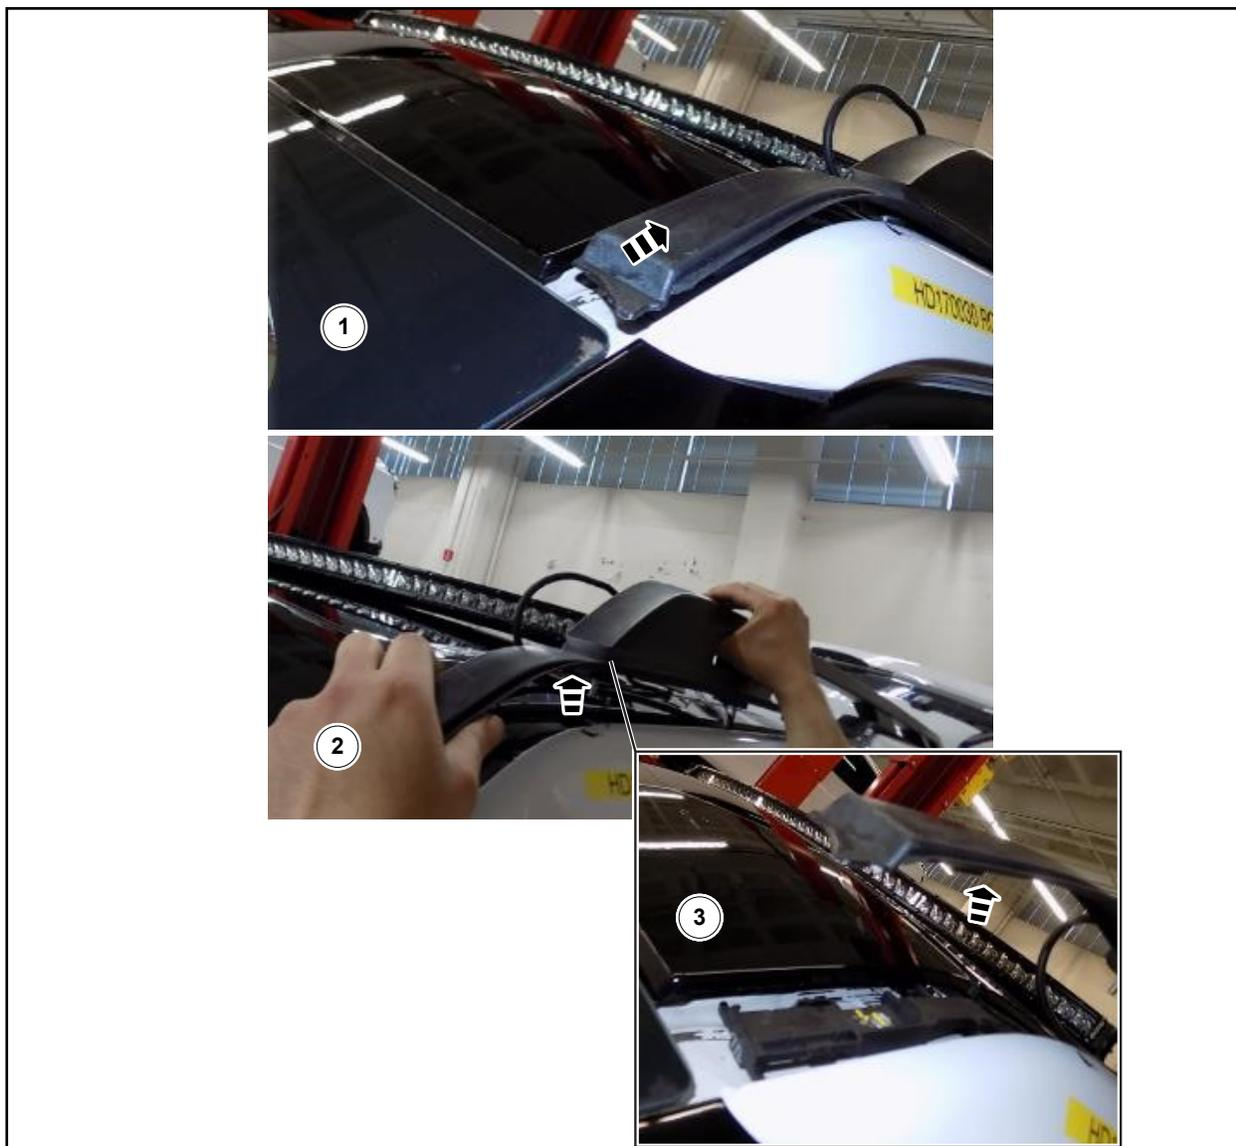

FIGURE 33
33. Position upward the front portion of the LH side rail. See Figure 33.